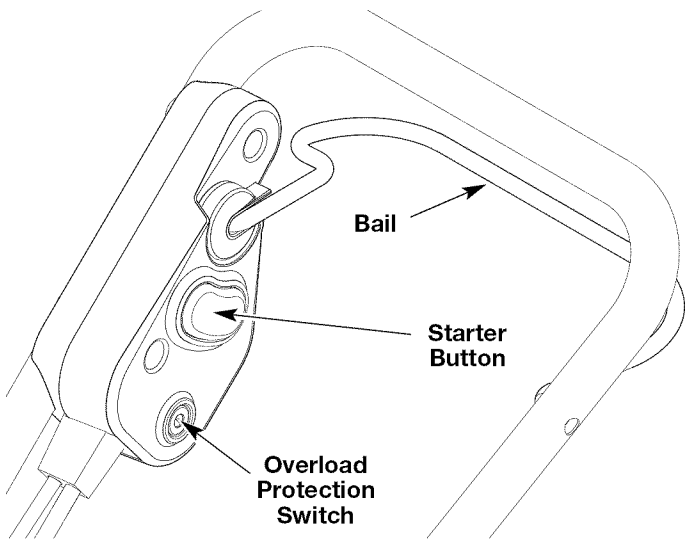

Fig. 5
3. Press in and hold the red starter button (Fig. 5).
2. Press the overload switch to reset. Start unit according to the *Starting Instructions* and resume operation (Fig. 5)